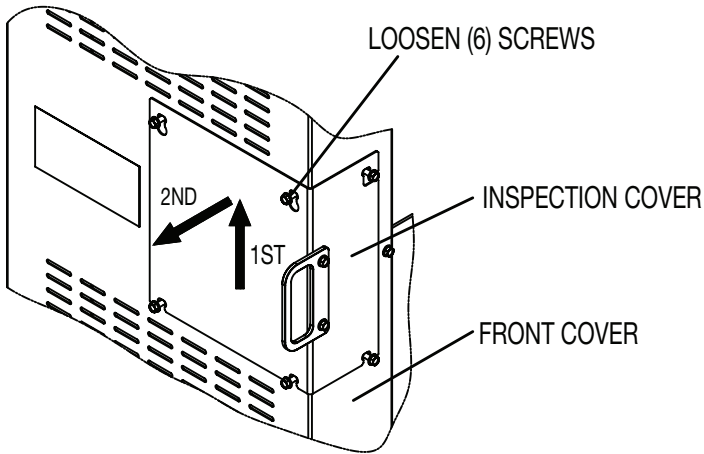

Figure 7 - Equipped with inspection cover
1. To gain access to the v-belts on belt guards with an inspection cover, loosen, but do NOT remove, the six screws that hold the inspection cover onto the front cover. Refer to Figure 7.